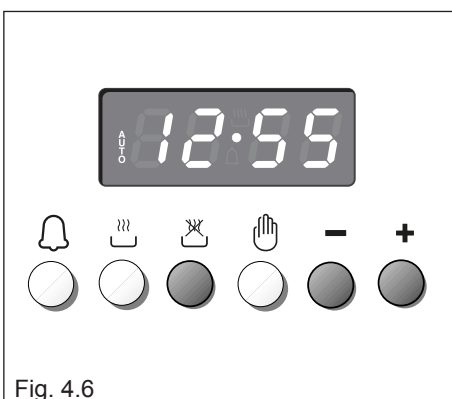

Fig. 4.6
2. Set the end of the cooking time by pressing the button (the cooking time already added to the clock time will appear), and the  $+$  button (fig. 4.6); if you pass the desired time you may get back by pushing the  $-$  button.